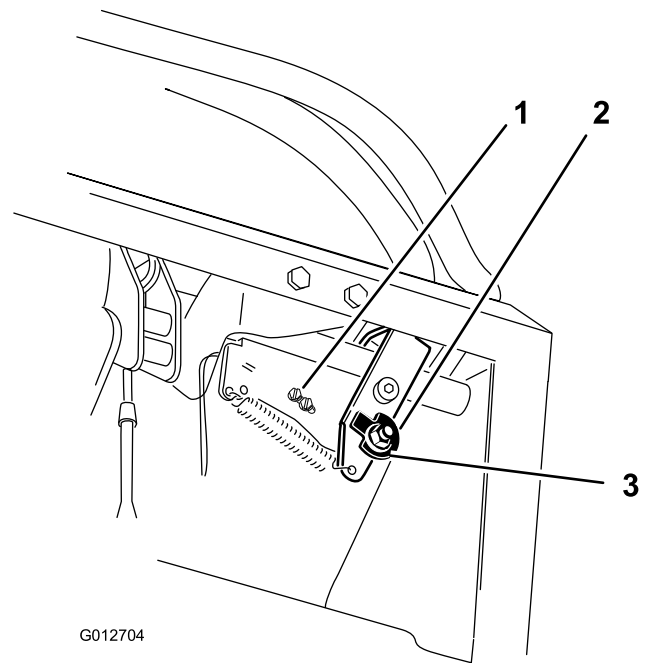
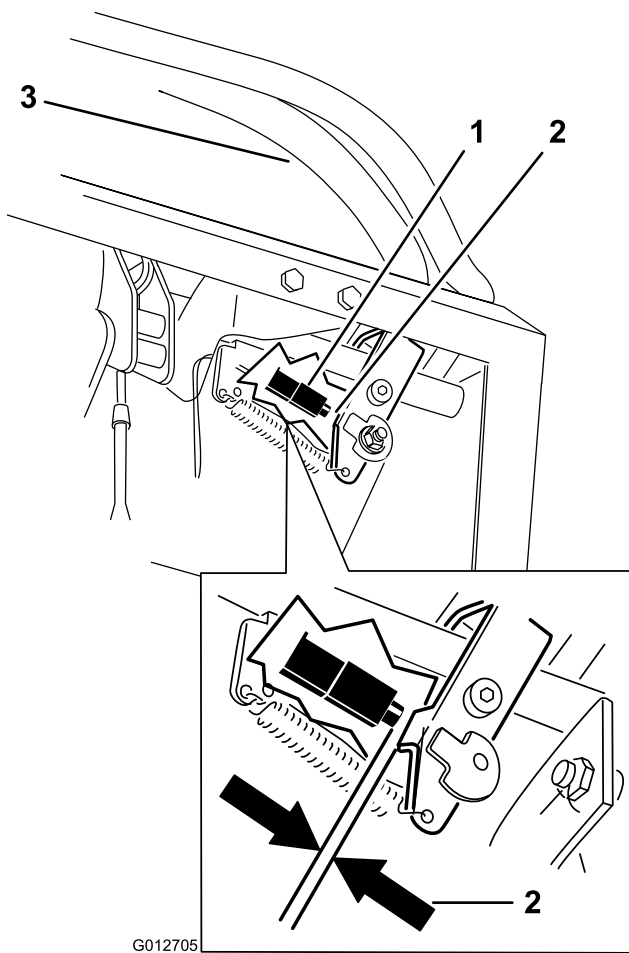

Figure 69
Figure 70
7. Loosen the nut holding the cam (Figure 69).
10. Check the gap between the control lever and switch as shown in Figure 70. The gap needs to be an 1/8 inch (3mm) with the right motion control lever in the neutral, unlocked position.
11. If needed, loosen the screws holding the switch and adjust the switch (Figure 69 and Figure 70).